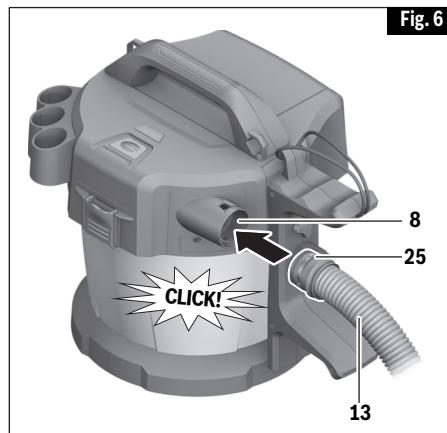

Fig. 6
- Insert vacuum hose **13** into port **8** until both snap fasteners **25** audibly lock in place (Fig. 6).